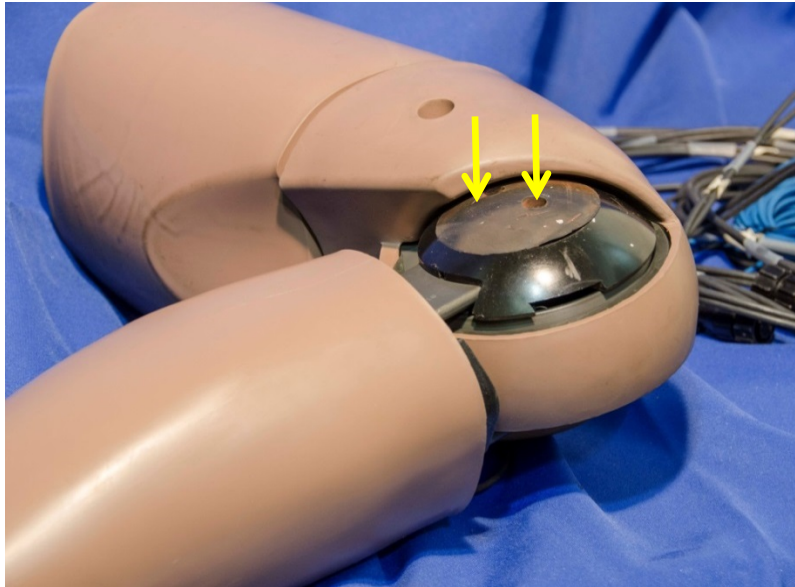

Figure 12-75. Install knee covers
- 12.2.3.3 Install the Knee Covers (472-5353) and both sides of the knee with two M6 x 18 SHCS per side (Figure 12-75).